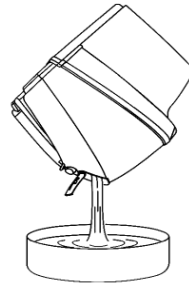

Fig 4
This function provides steam to remove wrinkles on delicate garments in hanging position, hanging curtains or other hanging fabric as Fig 4
4. Empty the water in the tank holding on it upside down as fig.4